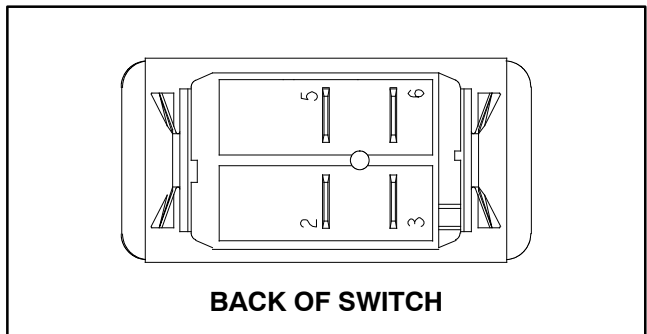

Figure 40
5. With the use of a multimeter (ohms setting), the switch functions may be tested to determine whether continuity exists between the various terminals for each position. The switch terminals are marked as shown in Figure 40. The circuitry of the cruise control switch is shown in the chart below. Verify continuity between switch terminals.